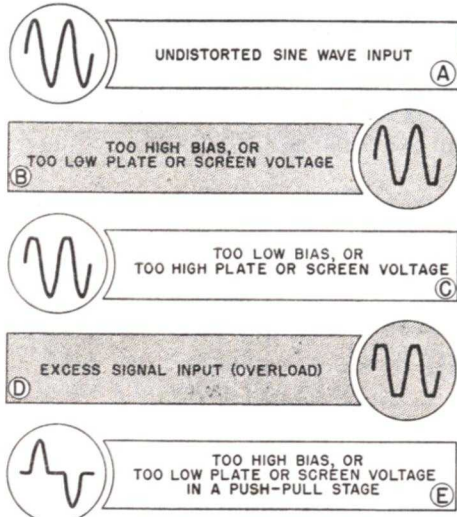

FIG. 19. These are the c.r.o. patterns which disclose conditions in an amplifier.
► A number of typical c.r.o. patterns and their probable causes are shown in Fig. 19. These patterns are for a c.r.o. with negative input polarity;\* if the input polarity of your c.r.o. is positive, the pattern will be inverted. The actual causes, of course, are found when